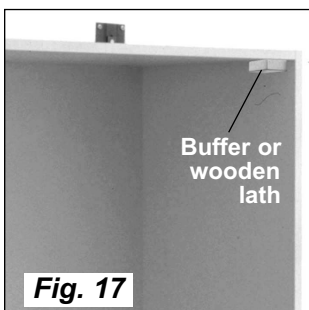

Fig. 17
- In order to prevent the Bettlift swinging more than 90° into the cabinet, we recommend fitting buffers at the top on the left and the right (alternatively a wooden lath can be used), see **Fig. 17**.